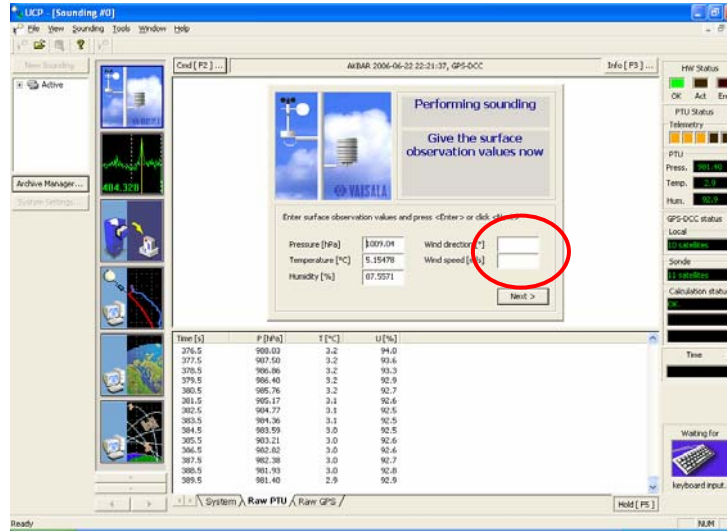

Figure 14
- 1) When you get back to the computer, you should see the following screen (Figure 14):